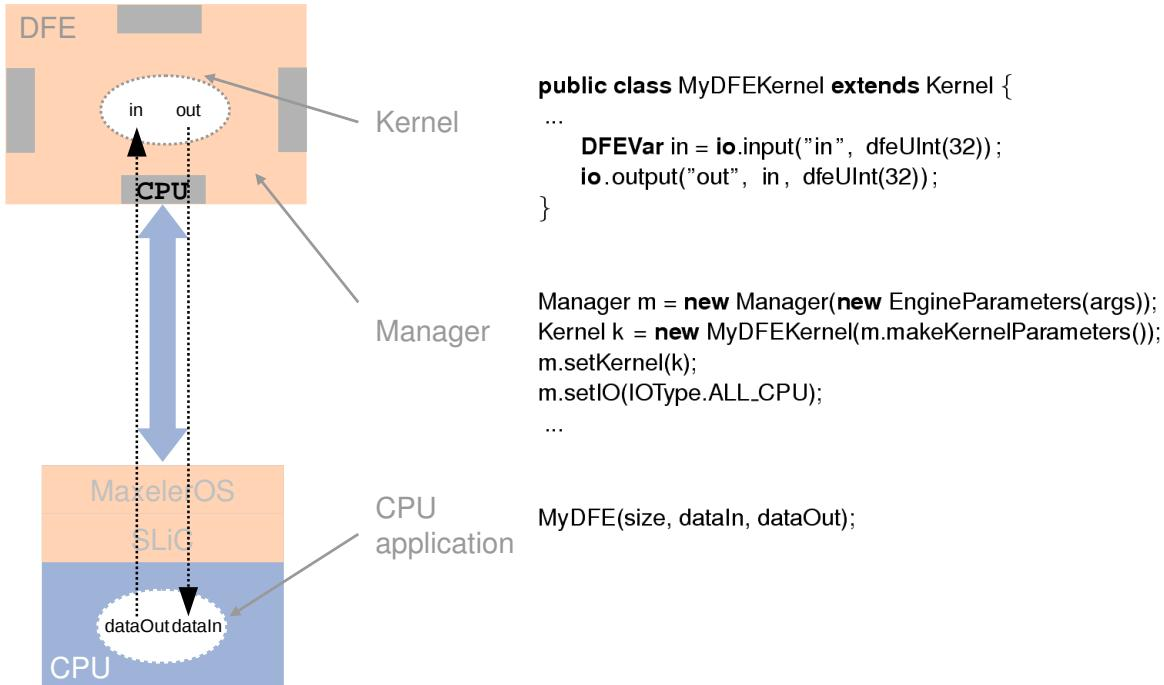

Figure 43: All CPU links on a Standard Manager
*Figure 43* illustrates how a Manager, Kernel and CPU interact with one input and one output both set to CPU.